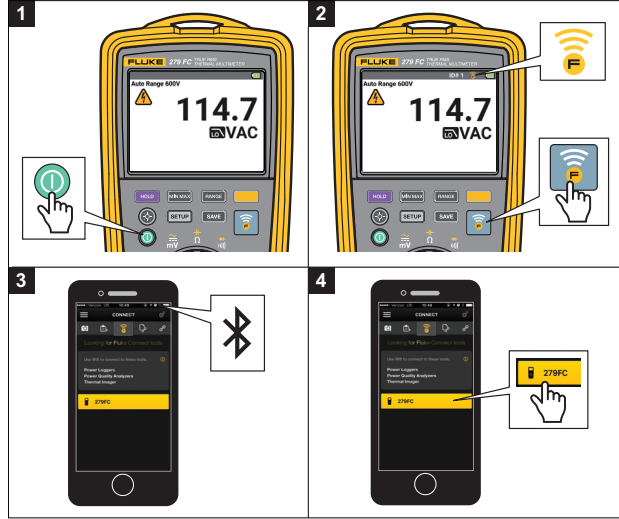

Figure 1. Fluke Connect™
- 1. Turn on the Multimeter. See Figure 1.